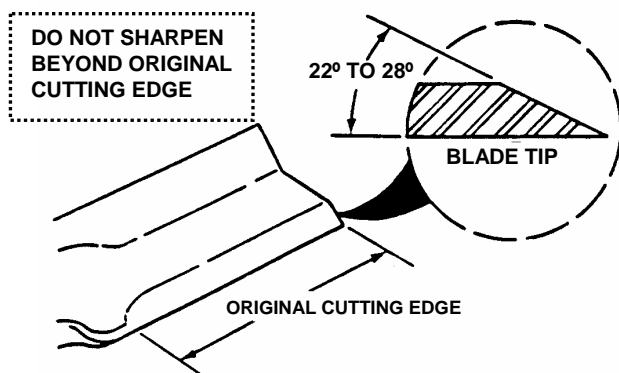

FIGURE 4.15
7. If blade is in good condition, sharpen at 22 to 28 degrees. DO NOT sharpen beyond existing cutting edge. See Figure 4.15.